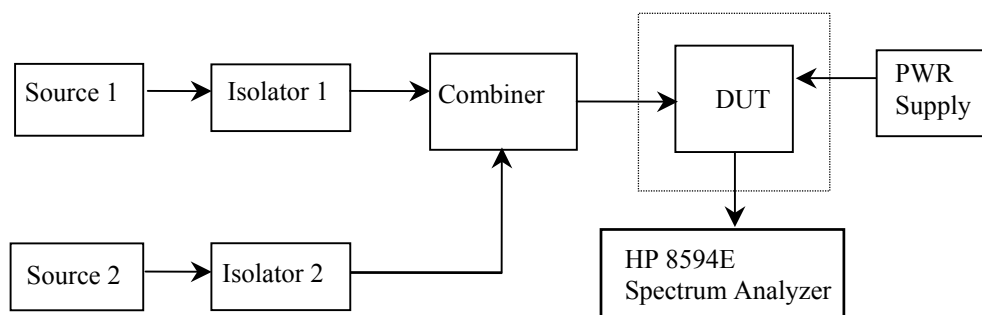

FIG. 2 The set-up for measuring IM_3 .
The set-up for measuring IM_3 is shown in **Figure 2**. Two signal generators are used to generate the two-tone signals. Each tone signal passes through the isolator and then is combined with the combiner. The combined two-tone signal then is fed in the DUT such as a low noise amplifier. A spectrum analyzer is used to measure the output power levels of the first product and intermodulation products such as the third order products.
- ❖ Connect the system as shown in Fig. 2;
- ❖ According to equations (4) and (5), TOIP3 is